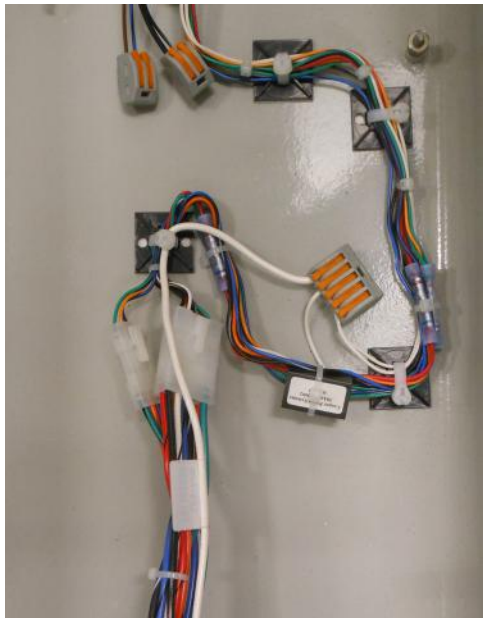

Figure 43. Secured QCA harness assembly.
17. Secure the QCA wires inside the GE control box by placing tie fasteners (Item 7) as needed, and then fastening with cable ties (Item 6) as shown in Figure 43.